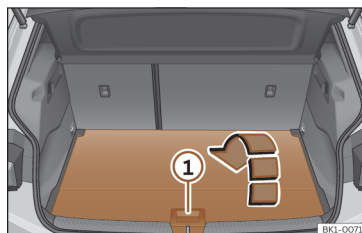

Fig. 164 In the luggage compartment: open the second luggage compartment floor.
- To **open** it, grasp the handle >>> **Fig. 164** ① and fold the rear of the luggage compartment floor forwards in the direction of the arrow.
- To **close** it, fold out the luggage compartment floor and set it down carefully >>> ①.